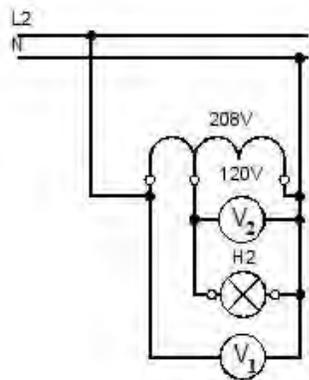

Figure 2:
1. Wire up the circuit in accordance with the set-up and wiring diagram of Figure 2.